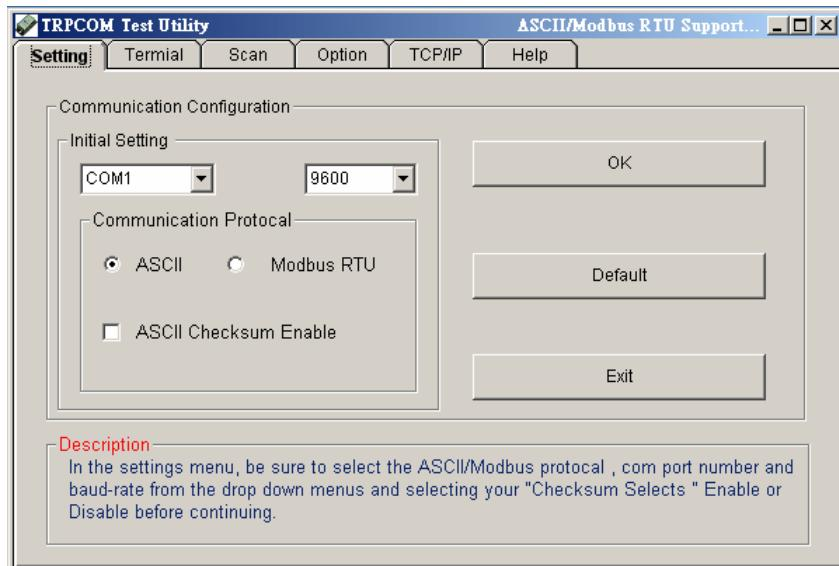

Figure 1
1.The "Setting" function is for user to initiate the software to set the Com Port from 1 to 8 and setting the Baud-Rate from 1200 to 19200,Checksum Enable or Disable. See Figure 1